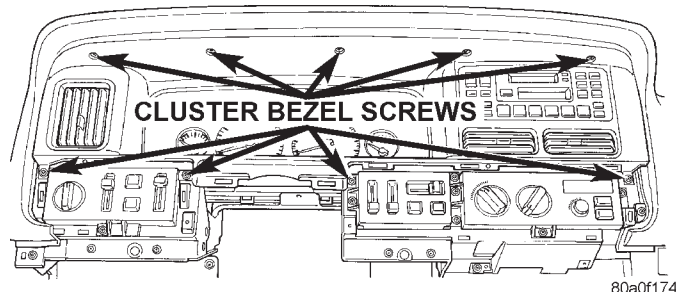

Fig. 6 Cluster Bezel Screws Remove/Install
(1) Disconnect and isolate the battery negative cable.
(2) Remove both switch pod bezels from the instrument panel. See Switch Pod Bezel in this group for the procedures.
(3) Remove the ten screws that secure the cluster bezel to the instrument panel (Fig. 6).